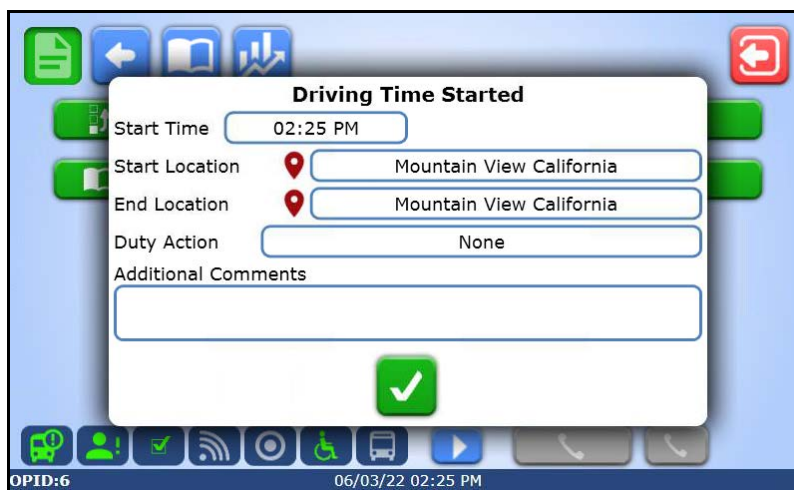

Figure 3.9 — Confirm Driving Status Popup
- Starting to drive changes your status to **Driving**. A popup window prompts you to confirm the change (Figure 3.9).